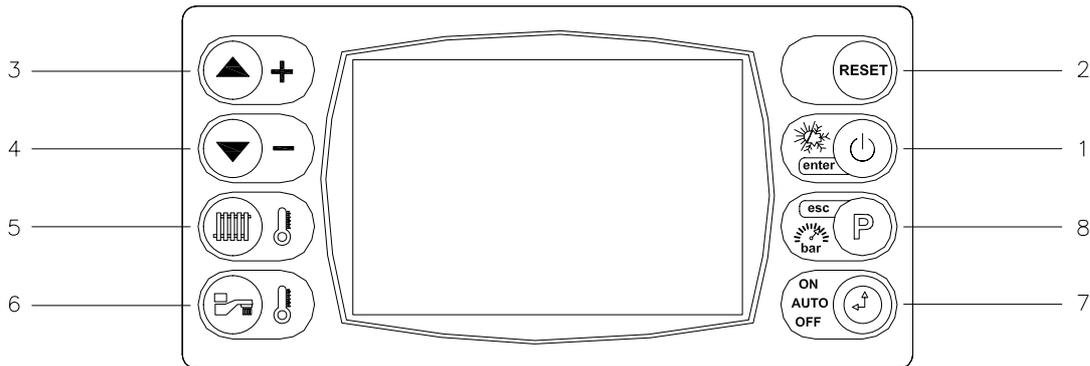

Fig. 1
In the event of an error, the appliance will show a sequence code displayed on the digital display of the control panel (fig. 1). By pressing the "RESET" button it is possible to relight the boiler (see page 51 for list of error codes).
Your boiler is equipped with a large LCD display that indicates the appliance operating status (fig. 1).
It is possible to show the boiler value. Press P button to show the boiler value. Use the arrow up and the arrow down buttons, (item 3 and 4 fig. 1) to show the following info: